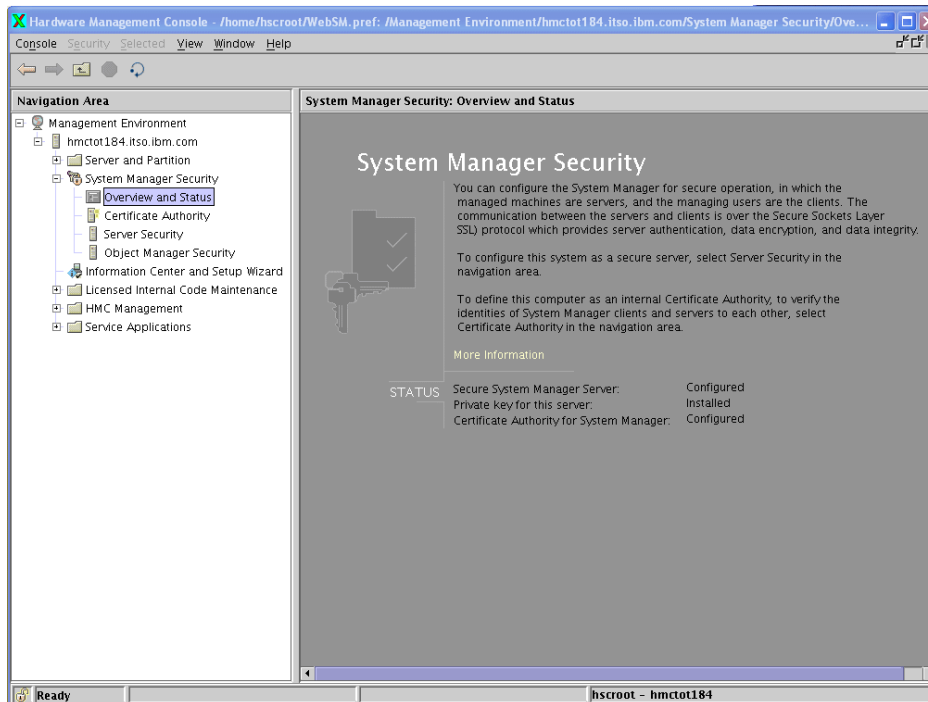

Figure 34 Verify the system manager security status
- Verify the status on the HMC to ensure that it is configured and the private key ring is installed as shown in Figure 34.